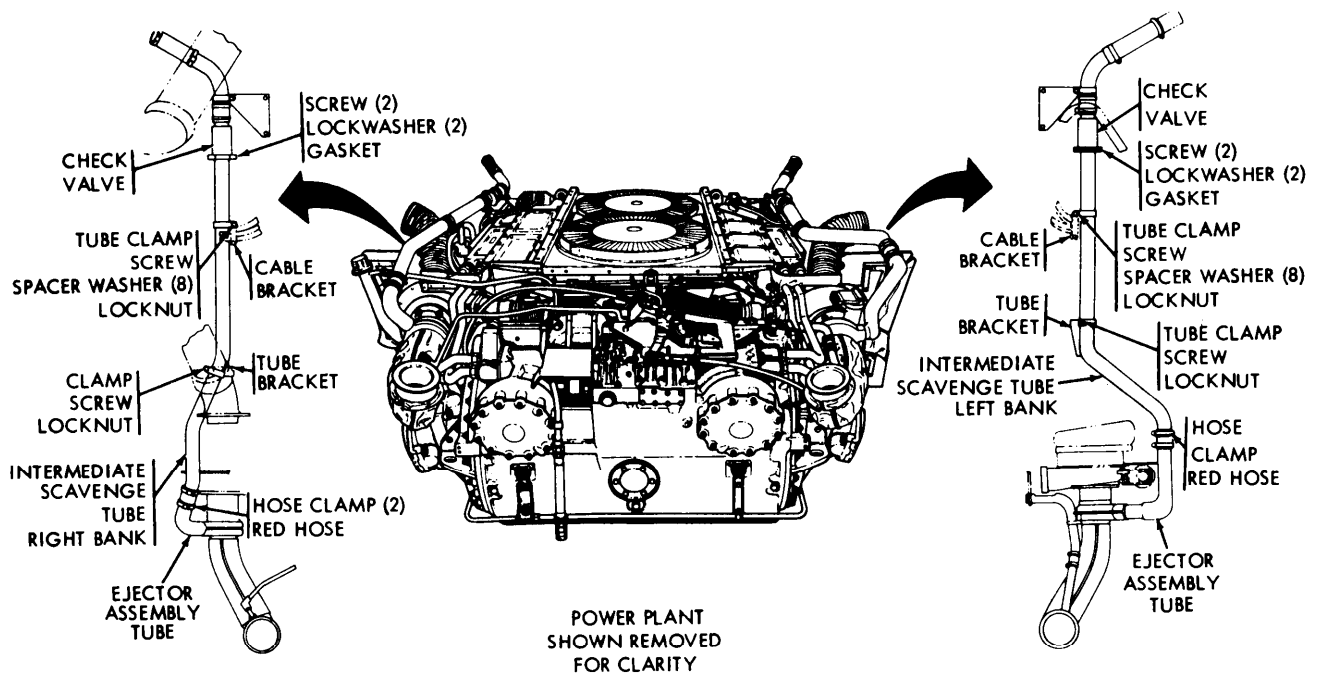

Figure 6-16. Intermediate scavenge tube replacement - left or right bank.
c. Intermediate Scavenge Tube Replacement - Left or Right Bank (*Fig. 6-16*).